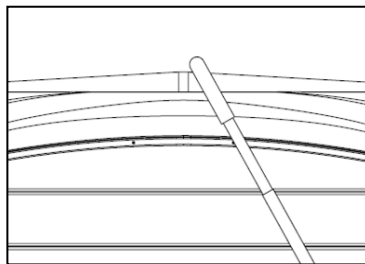

Figure 6
- e. Next raise the cover lifter so that the CROSS TUBE rests 1 inch (2.5cm) behind the cover hinge seam, as shown in Figure 6.